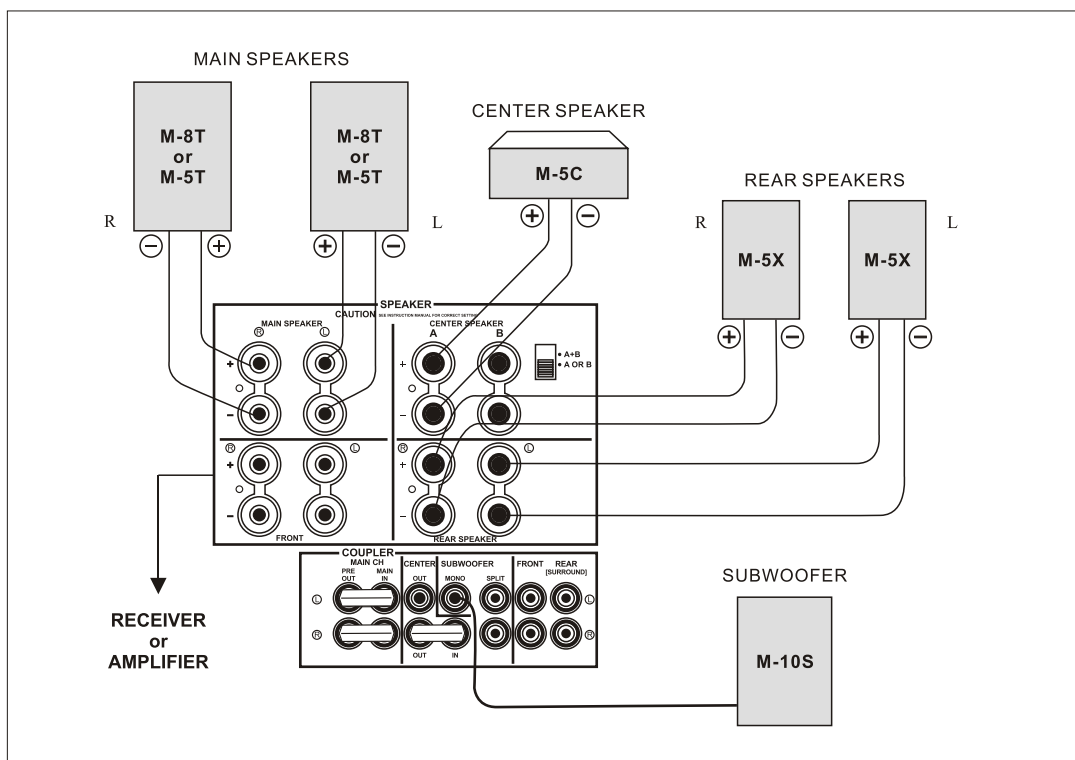

Fig. 2
**Please according to fig. 2 to connect your M series speaker system with your Receiver or Amplifier.**